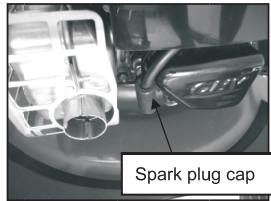
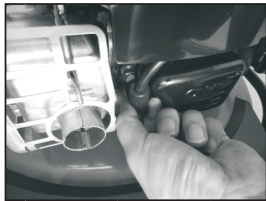

Fig.16A
Fig.16B
c) Remove the spark plug cap by your hand first, and then remove the spark plug by the spark plug wrench (Fig.16A/ Fig.16B/ Fig.16C/ Fig.16D). Use an oil can to fill approx. 20 ml oil into the combustion chamber. Operate the starter to evenly distribute the oil in the combustion chamber. Replace the spark plug.